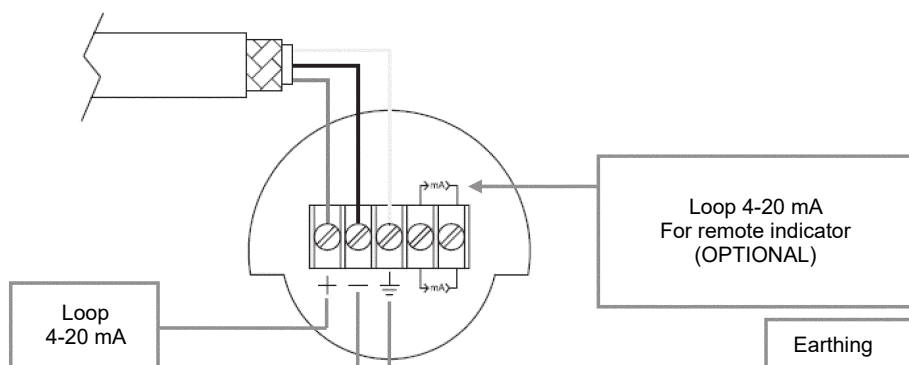

Fig. 9 - Electrical connection of the power cable to the terminal block
Under the rear cap is placed the terminal block reporting the electric polarity (**Fig. 9**). Insert the power supply cable into the enclosure through one of the two threaded openings. Transmitter is protected from accidental inversion of polarity. For a better use is recommended a twisted pair cable (22 AWG min). Avoid placing Transmitter near devices powered in AC or Switching. Connect ground-tap of the Transmitter to the local common earth (PE) as indicated in paragraph Earthing.
In the case where the plant devoid of earthing, it is necessary to connect the earth wire to the terminal block through the cable that carries the signal and the power supply (**Fig. 9**).